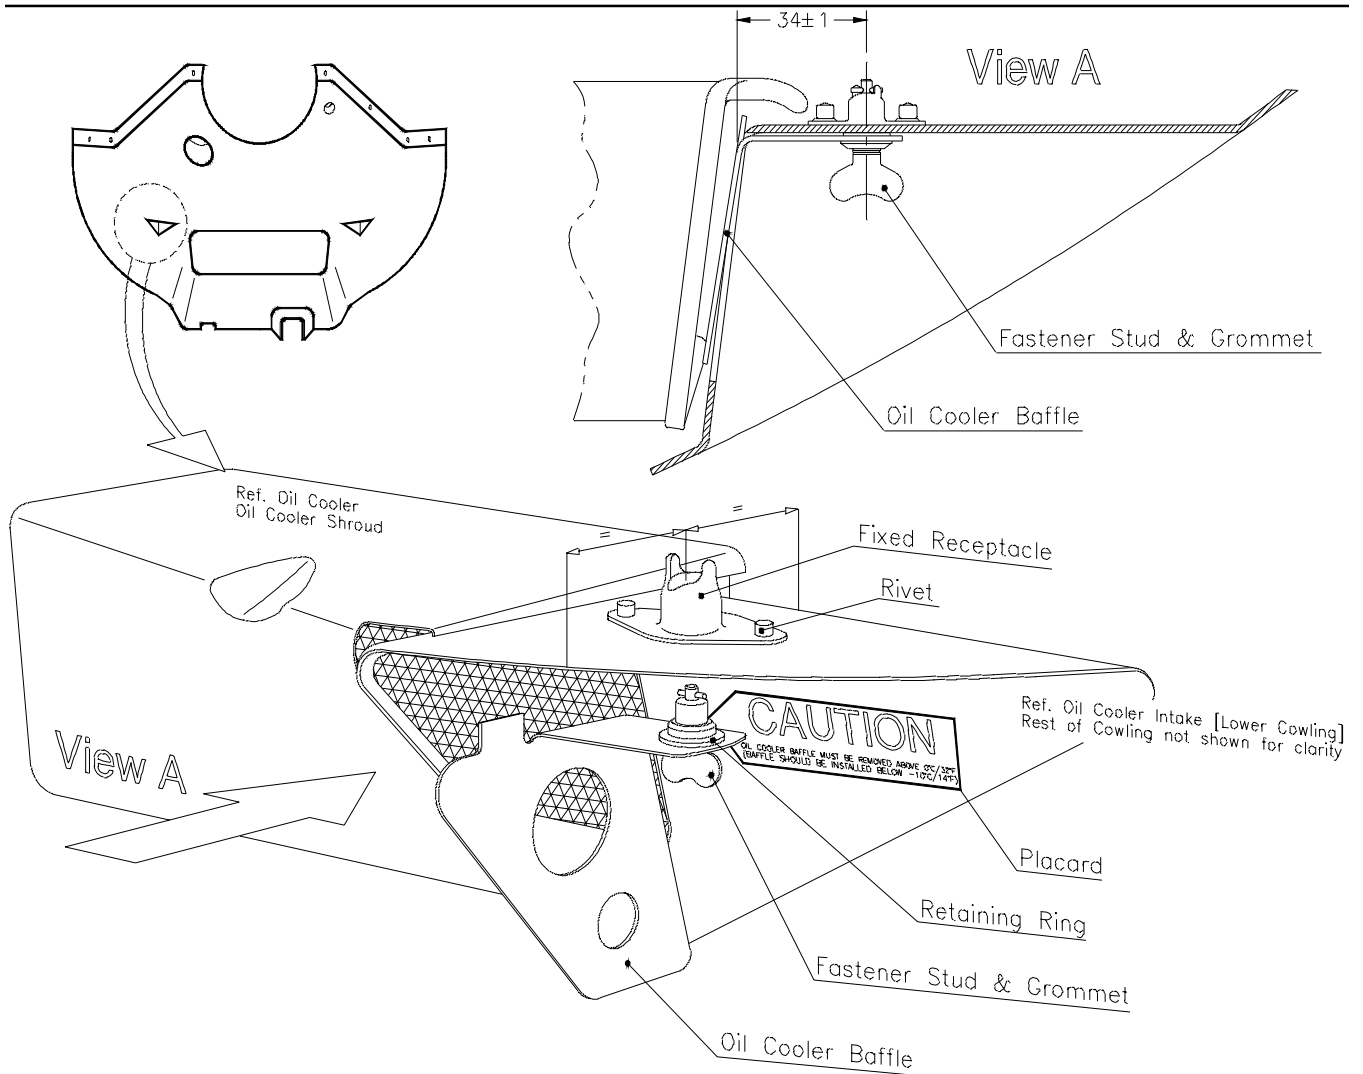

Figure 1. Oil Cooler Baffle Installation
- 10.1 Place oil cooler baffle (ref. pn. 20-7910-03-01, supplied) in required position as shown in figure 1. Mark fastener pilot hole using oil cooler baffle as template. If required, grind flat upper lip of the oil cooler inlet so the baffle sits flat against the upper surface of the oil cooler air intake.
- 10.3 Enlarge pilot hole to 5/8" (15mm) diameter. Orient receptacle so the rivet holes are in line with oncoming air flow (ref. view A, figure 1) and use it as template for drilling two 1/8" rivet holes in the engine cowling.
- 10.4 Install receptacle 214-16 (supplied) with two rivets (ref. CCR244SS4-04, supplied) to the lower engine cowling as shown on figure 1.
- 10.5 Apply caution placard (supplied) to the engine lower cowling at location shown in figure 1.